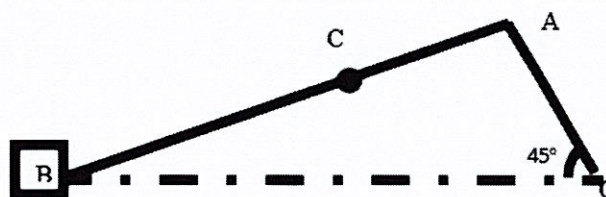

Figure 3(b) / Rajah 3(b)
- (b) The piston engine shown in Figure 3 (b). The crank  $OA = 40\text{mm}$  and the connecting rod  $AB = 140\text{mm}$ . In the position shown, the crankshaft has a speed of 300 rpm clock wise. Calculate:
- CLO1 (c) From Figure 3 (b). The crank  $AC = 50\text{mm}$  on the connecting rod  $AB = 140\text{mm}$ . Angle with  $OB$  is  $45^\circ$  from horizontal line. In the position shown, the crankshaft has a speed of  $300\text{ rpm}$  follow clock wise. Calculate: